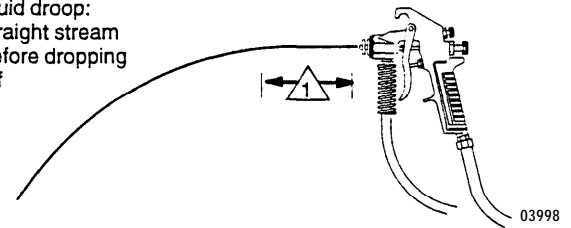

Fig. 8
1. With the system primed, the gun regulator (6b) closed, and the pump air regulator (6a) set as instructed in Step 10 on page 8, adjust the fluid pressure regulator (44) to the fluid manufacturer's specifications, if available. Otherwise, follow Step 2 to determine the fluid pressure setting.
2. To determine the fluid pressure setting, hold the gun parallel to the floor. (Be sure to catch the fluid in a container.) With the gun air pressure turned OFF, trigger the gun. Adjust the fluid pressure regulator (4) until the straight fluid stream is within the range indicated for the viscosity of your fluid before it drops off. See Fig. 8. Make note of the pressure on the fluid gauge it is your optimal fluid pressure setting.